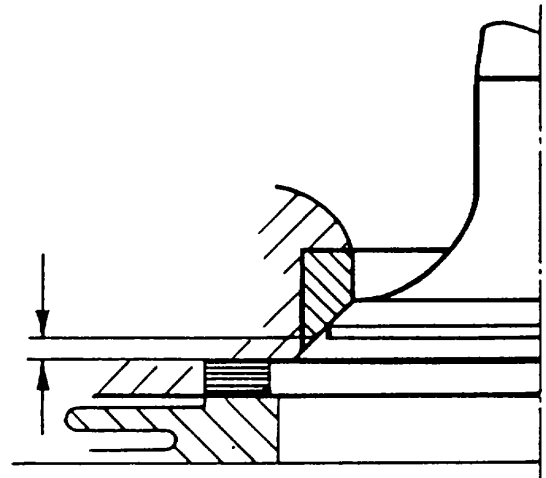

Figure A-77. Clearance Valve Head to Cylinder Face
f. Valve Seats: All valve seats are cut at 45 degree angle. They should be free of noticeable wear or pitting. If damaged, they may be either resurfaced or replaced. Use the valve cutter provided in the special tools set to resurface the valves. Do not remove material unnecessarily. If the seats are cut too deep, hard starting and poor engine efficiency will result. If the distance between the valve head and cylinder head face exceeds the limits shown below, the valve seat must be replaced. Figure A-77.